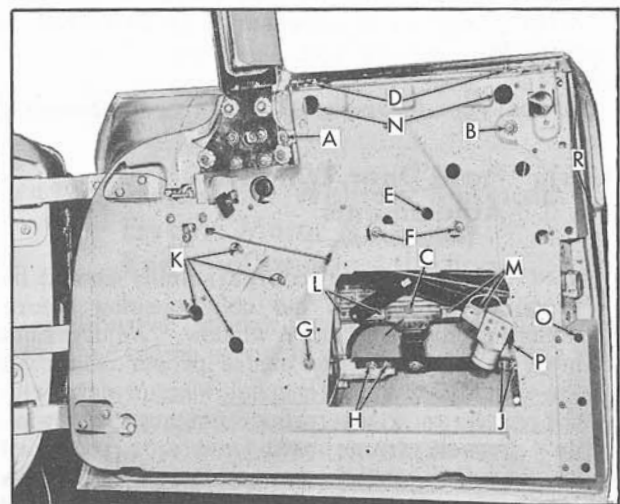

Fig. 17-32 Window and Regulator Assembly Removal
2. Remove both window cushions and adjusting plates. Through access holes "D", Fig. 17-32, remove lower sash channel front cam attaching screws "L", rear cam attaching screws "M", sash channel front and rear stop attaching screws "N" and remove stops from door.
4. Remove window front guide upper attaching screw "A" and window rear guide attaching stud and nut "B", Fig. 17-32.
5. Remove window center guide-to-window sash channel attaching nut "C", Fig. 17-32, and detach center guide from window lower sash channel.
1. To limit the "up" travel of the window for proper contact with the side roof rail weatherstrip, adjust window cushions and adjusting plates "D", Fig. 17-32.
b. Loosen front guide lower attaching stud nut and rear guide lower attaching screw "O", Fig. 17-32. Working through large access hole loosen center guide shoe jam nut.
NOTE: Center guide shoe stud can be adjusted with cross head screw driver through access hole, shown at "E" in Fig. 17-32.
3. To adjust the window lower sash channel frame "in or out" for proper contact with the door glass run inner and outer sealing strips, remove the front guide upper attaching screw "A" and loosen the rear guide upper attaching stud nut "B", Fig. 17-32. Adjust the upper ends of the guide "in or out" as required. To adjust the upper end of the front guide "in or out" emergency spacers (washers) should be "removed or installed" between the guide support and ventilator frame.
4. To adjust the window "fore and aft" for proper contact of the window division channel weatherstrip with the ventilator glass, loosen front and rear guide upper and lower attaching stud nuts and screws, A, B, G, and P, Fig. 17-32.
5. To correct a condition where the glass is "cocked" in the front and rear guides, loosen the inner panel cam rear attaching screws "F", Fig. 17-32; adjust rear of cam "up or down" as required and retighten the screw.
(37) Front Door Window Front Guide Assembly Removal and Installation
2. Remove front guide upper attaching screw "A" and lower attaching stud and nut "G", Fig. 17-32.
3. Through large access hole, remove window front guide to rear guide brace front attaching screws "H", Fig. 17-32.
2. Remove window center guide-to-sash channel attaching nut "C", Fig. 17-32, disengage center guide from window lower sash channel and from shoe assembly and remove guide assembly from door.
2. Remove rear guide upper attaching stud and nut "B", Fig. 17-32.
3. Remove rear guide lower attaching screw "O" and, through large access hole, remove rear guide to support attaching screw "P", Fig. 17-32.
3. Remove front guide-to-rear guide brace rear attaching screws "J", Fig. 17-32.
5. Remove inner panel cam attaching screws "F", Fig. 17-32, and detach cam from regulator balance arm.
6. Through access holes "K", shown in Fig. 17-32, remove regulator attaching screws and remove regulator assembly through large access hole.
2. Remove channel upper and lower attaching screws "R", from face of door lock pillar, Fig. 17-32.
(46) Rear Door Assembly Removal and Installation